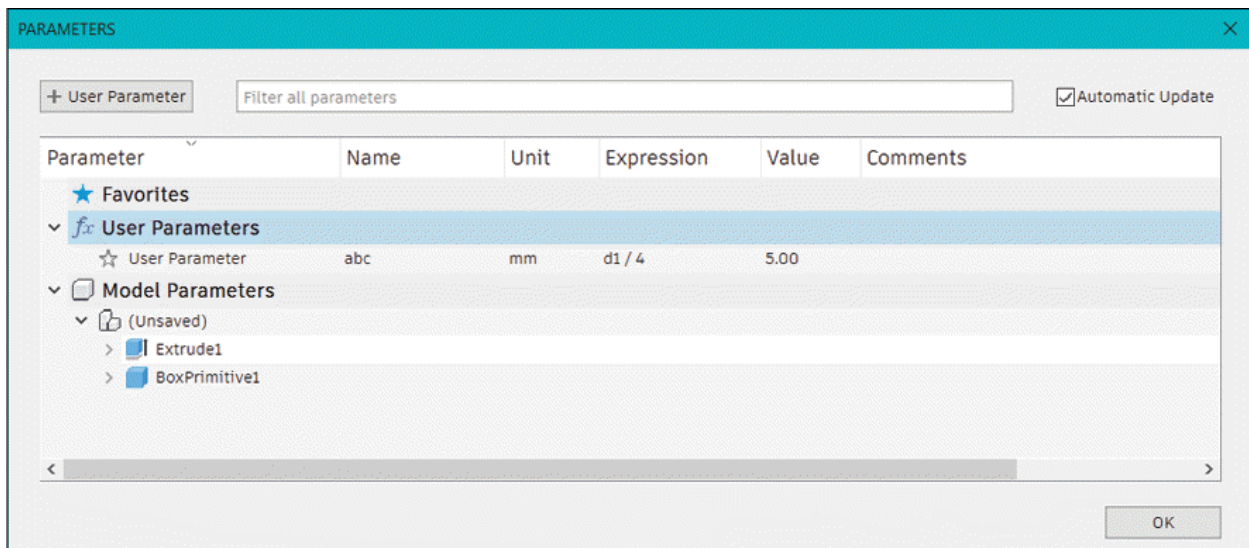

Figure-86. User Parameter added
- After specifying the parameters, click on the **OK** button from **Add User Parameter** dialog box. The user defined parameter will be added in **Parameters** dialog box; refer to Figure-86.